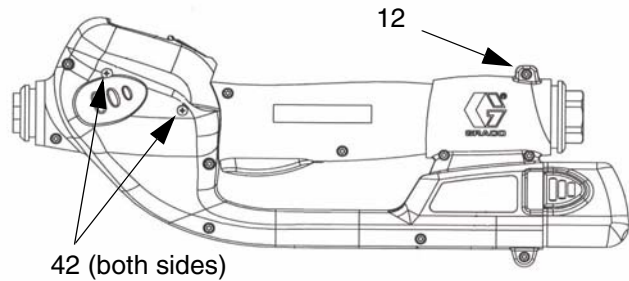

FIG. 41
1. Remove the battery (11). See **Parts Drawing for the 246008 and 249881 Electronic Meters** on page 32.
2. Slide the rear boot (24) off the hose.
4. Remove the impact guard (40) from the meter.
5. With a phillips screwdriver remove the four phillips screws (42) holding the bezel to the cover halves (18 & 19). See FIG. 41.
6. With a T-10 torx driver remove the remaining eleven screws (12) holding the cover halves together (18 & 19).